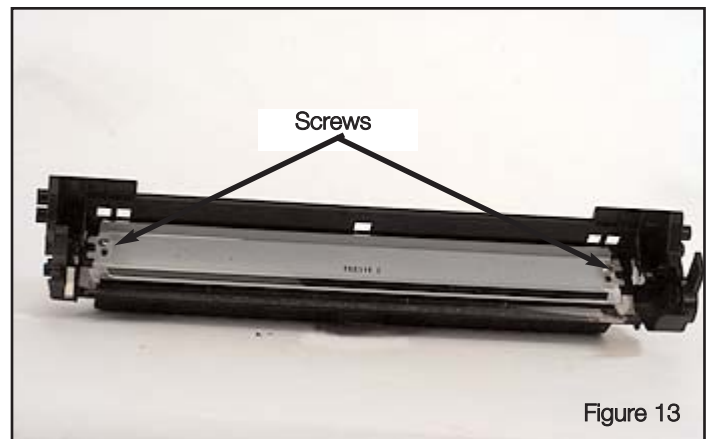

Figure 13
5. Using a phillips screwdriver remove the two screws on the wiper blade, see Figure 13.